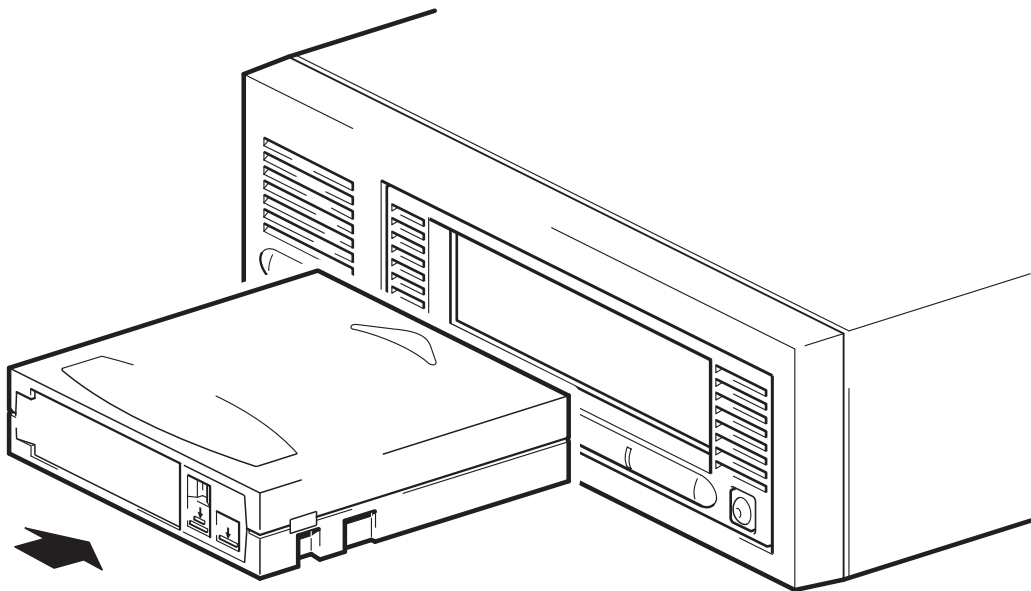

Figure 7a: loading a DLTtape cartridge
- 1 Insert the cartridge into the slot in front of the drive, oriented as shown in Figure 7a. Apply gentle pressure until the drive takes the cartridge and loads it. (The label and write-protect switch are on the rear face of the cartridge.)